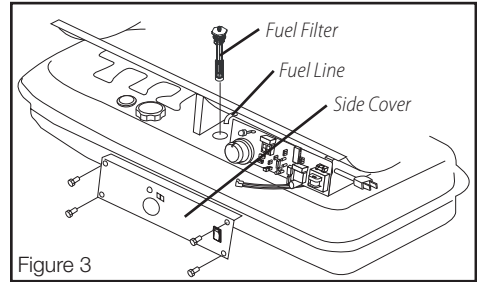

Figure 3
**NOTE:** To remove the filter from model 80T-KFA, turn filter 90° clockwise. To remove the filter from models 140T or 215T-KFA, turn filter 90° counterclockwise. See Figure 3.